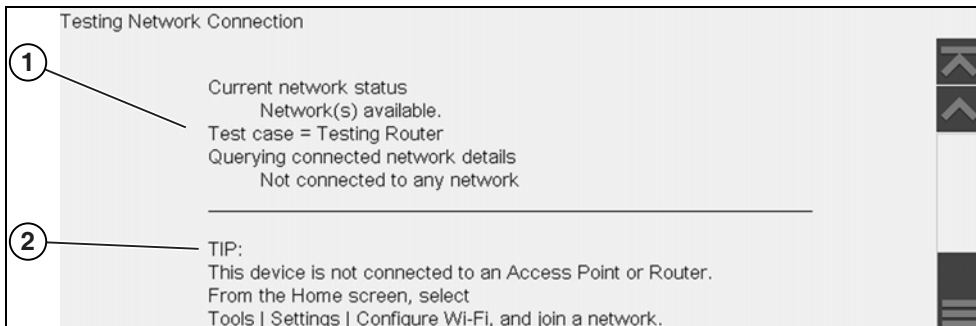

Figure 11-5 View Summary
- If a connection issue(s) is present, select **View Summary** to review the results. The summary information is helpful if you are experiencing difficulties with your connection (Figure 11-5). Scroll through the summary information to review the test results for each system and Tip messages for the current connection issue. See *Connection Tests - Troubleshooting* chart in “Wi-Fi Troubleshooting and Status Messages” on page 71 for additional information.